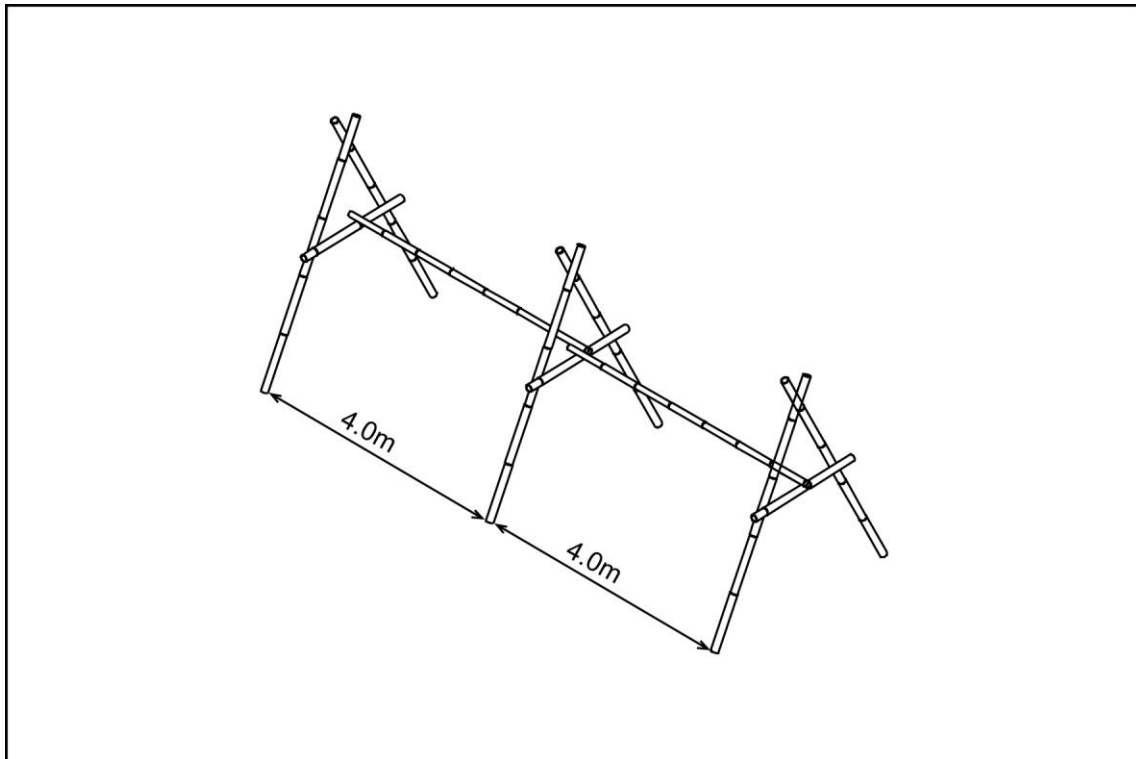

Figure 9: Standing third frame and central longitudinal (horizontal) bar (II)
- ◆ Insert the second central horizontal bar and fix it to the cross bar of the second and third vertical frames (figure 9).